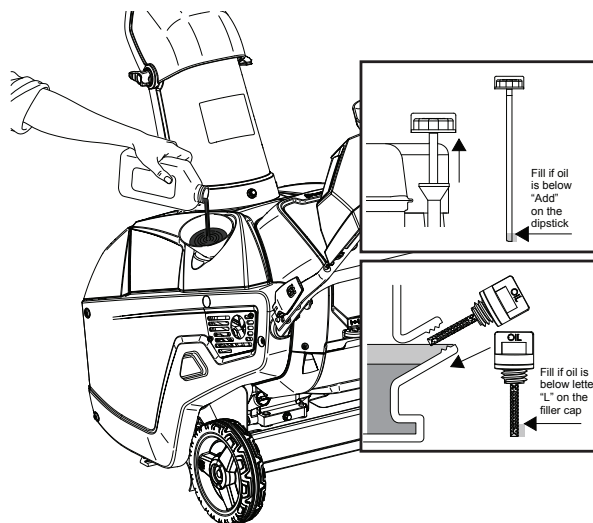

Figure 26
8. Unscrew and remove the oil fill cap/dipstick (Figure 26).
9. With the snowthrower in the operating position, carefully pour oil into the oil fill hole until "Full" on the fill cap/dipstick line (Figure 26).